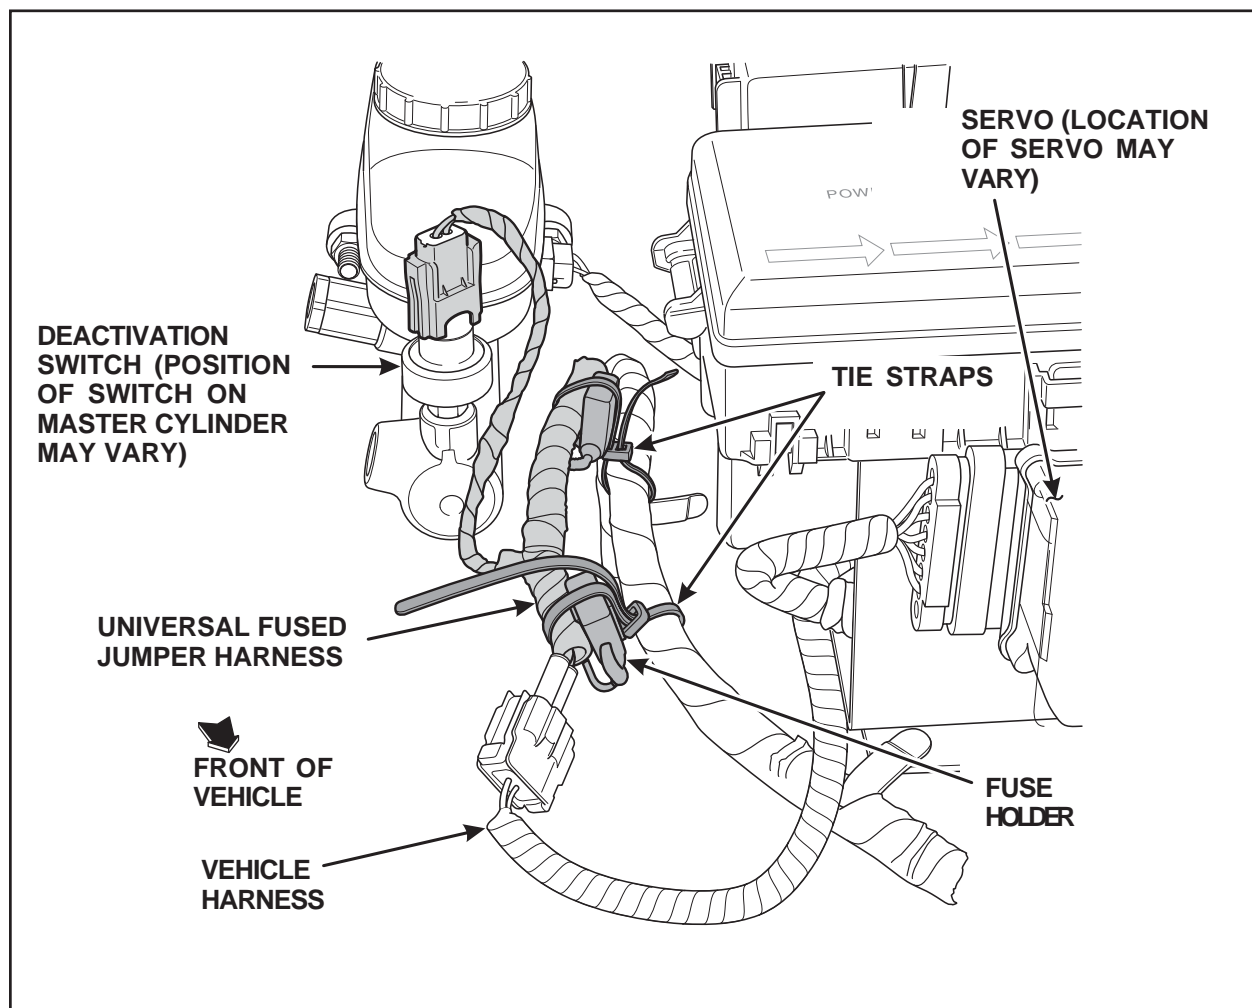

FIGURE 3
2. Secure the UFJH to the existing harness with tie straps, making sure the fuse holders are positioned vertically with the fuse holder cap facing upward. Wrap the tie straps underneath, then over the top of the existing harness and verify proper fuse holder orientation (See Figure 3).